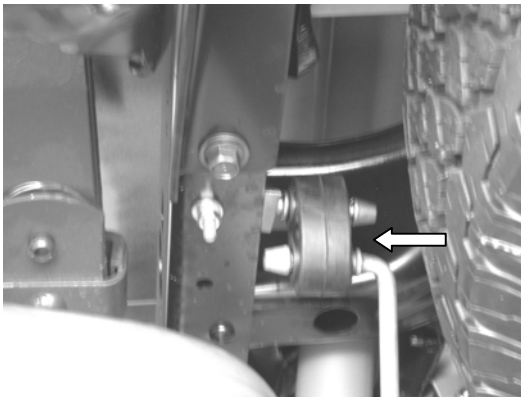

Figure 5
3. Install hanger/bracket assembly on the inside of driver side frame rails just behind the rear tire in the rear most open hole as shown in figure 5. Install rubber hangers on to brackets.